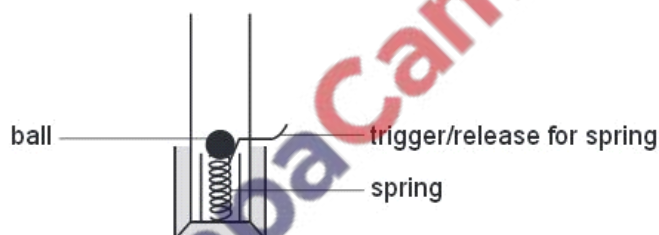

Fig. 4.2
- (c) A child's toy uses the spring in (b) to shoot a small ball vertically upwards. The ball has a mass of 25 g. The toy is shown in Fig. 4.2.